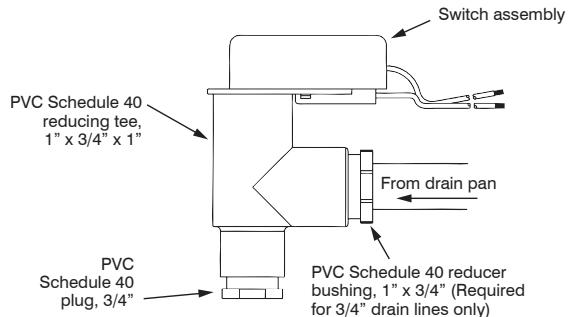

Figure 5
1. For plugged installation (see Figure 2 for item number and Figure 5 for installation):